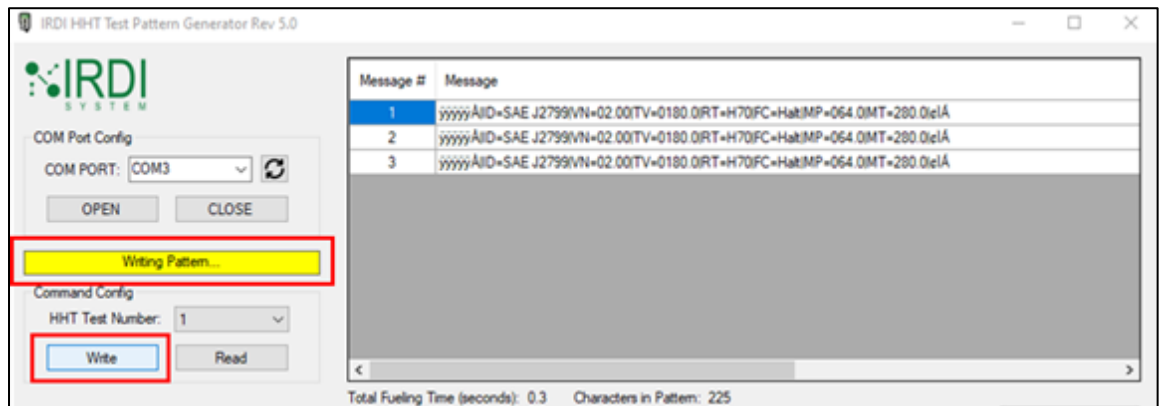

FIGURE 6-22 HHT TEST PATTERN GENERATOR SOFTWARE – HHT PROGRAMMING IN PROGRESS
STEP 3	<p>Click on the “Write” button. In the “HHT Status” window, the message “Writing Pattern” will be displayed – see Figure 6-22 below. Wait while the HHT is programmed.</p>